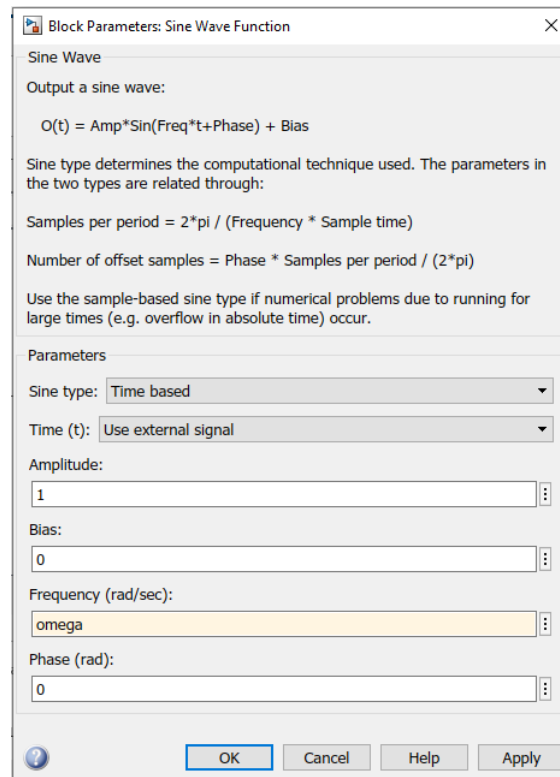

Figure 3.4: Configuration for the implementation of the signal $\sin \omega_u t$
6. We will now systematically construct the Bode plot of the motor when the output is the angular velocity ω using experimental data. Doing so will require information about the magnitude and phase of output sinusoid at various frequencies. To do this you replace the **Fcn** block by a **Sine Wave Block**. After you have connected the **Sine Wave** block to the **Write Analog** block, you can enter the parameters of the sinusoid you would like to implement. For the generic signal, $\sin(\omega_u t)$, you may enter the parameters as highlighted in Figure 3.4 below.